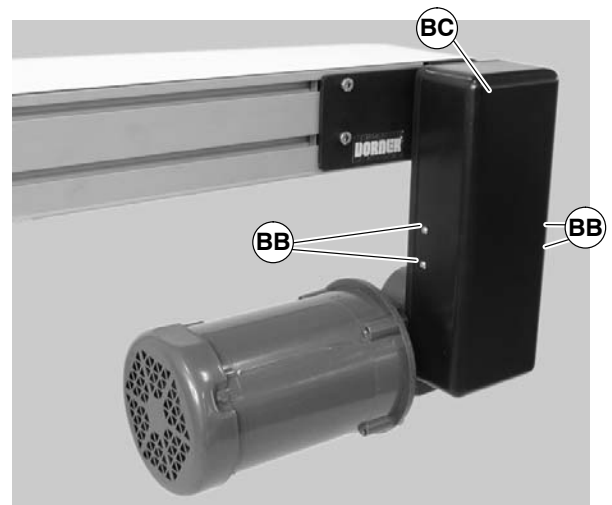

Figure 40
- Remove four (4) screws (BB of Figure 40) and remove cover (BC).